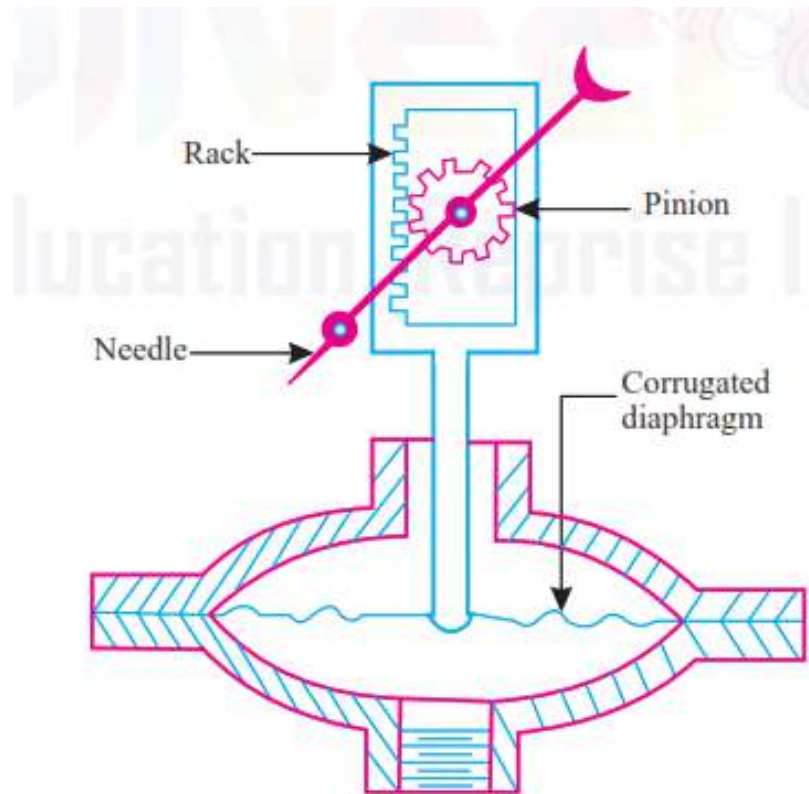

Fig. 2.40. Diaphragm gauge.
- *The disc or diaphragm is used for actuating the device (See fig 2.40)*